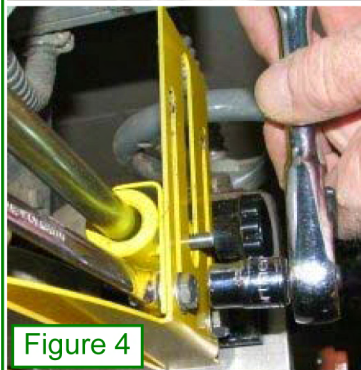
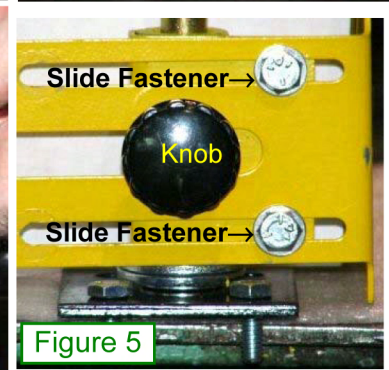

Figure 4
Figure 5
6. Make sure sander table is at a right angle to disc. Adjust if necessary. Lower the **13385** to rest on table as shown in Fig. 5.
7. Loosen 4 slide adjustment fasteners as shown in Fig. 4 and Fig. 5.
9. With lower edge of guard resting on the table, and the **13385** properly aligned, (Fig. 5) tighten 4 slide fasteners in slots that were loosened in step 7.